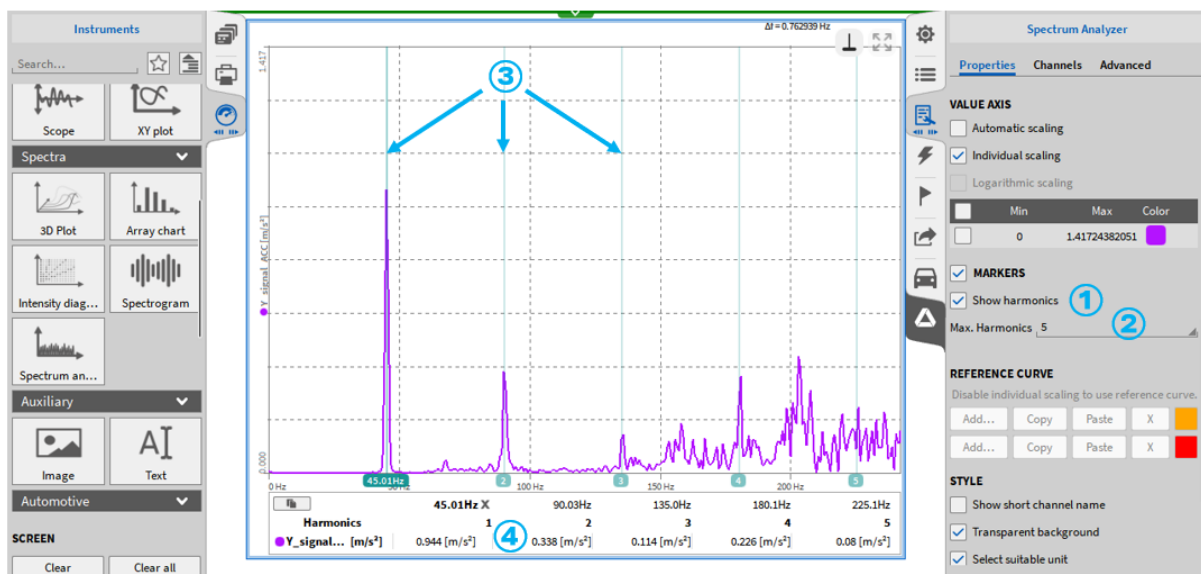

Fig. 8.63: Usage of Harmonics Cursors
Harmonics Cursors can be displayed by checking *Show Harmonics* (see ① in Fig. 8.63). The number of harmonics can be set from 1 to 10 (see ② in Fig. 8.63). Harmonics are marked with cursors (see ③ in Fig. 8.63) and the harmonics amplitude is displayed at the instrument's bottom (see ④ in Fig. 8.63).